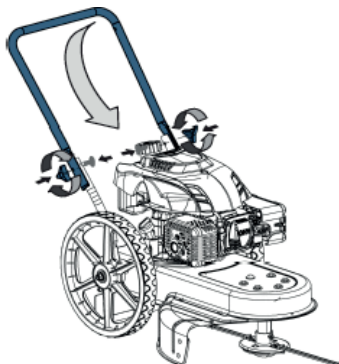

Figure 3-1
2. Pivot the middle handle into the operating position and secure it. (See Fig. 3-1)